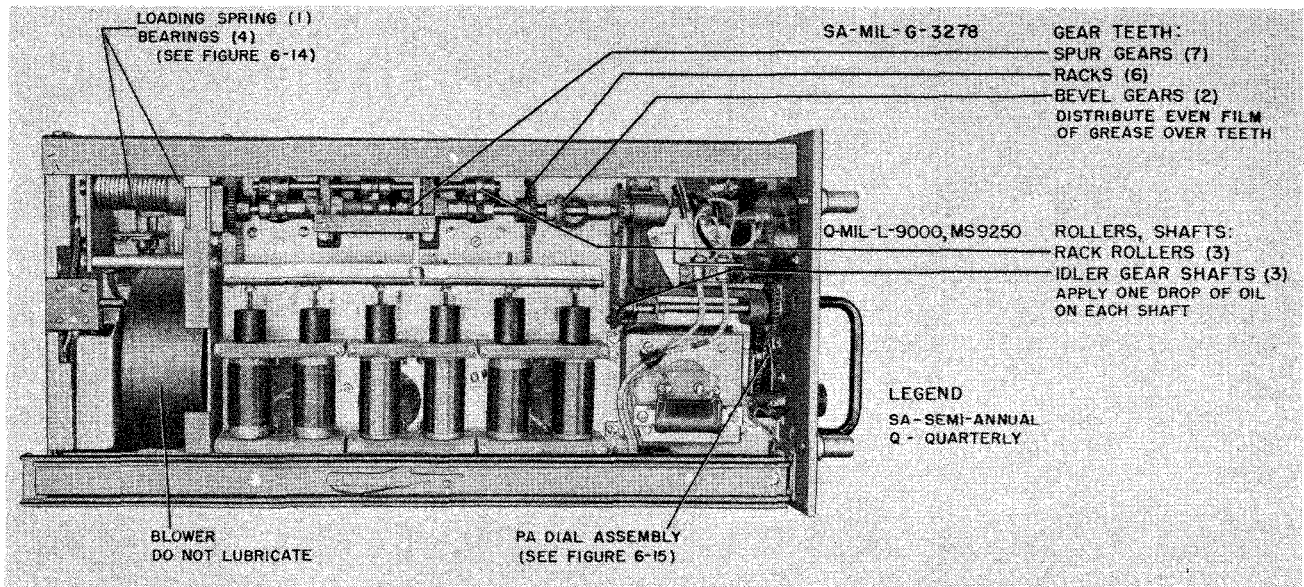
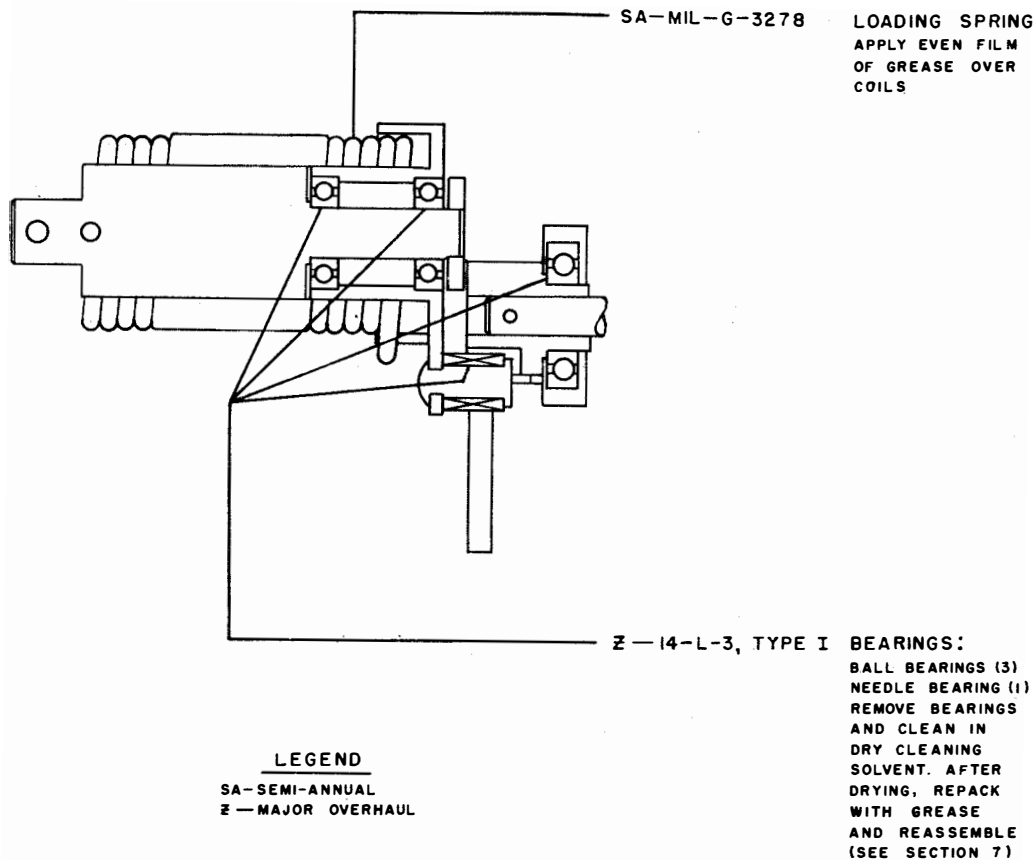

Figure 6-13. Radio Frequency Amplifier AM-1008/SRT (RFA), Left Side, Lubrication
Figure 6-14. RFA, Loading Spring and Actuating Arm, Lubrication
(a) PA TUNING MECHANISM (RFA).—The left side of the radio frequency amplifier is shown in figure 6-13. The lubrication procedures for the gears, racks, rollers, and idlers used in this assembly are described. References to the loading spring, blower, and PA dial assembly are also included. As noted in figure 6-14, the bearings in the actuating arm assembly need to be serviced only at the time of a major overhaul. Section 7 describes the pertinent disassembly procedure.
- (b) Figure 6-13
- (d) Figure 6-14